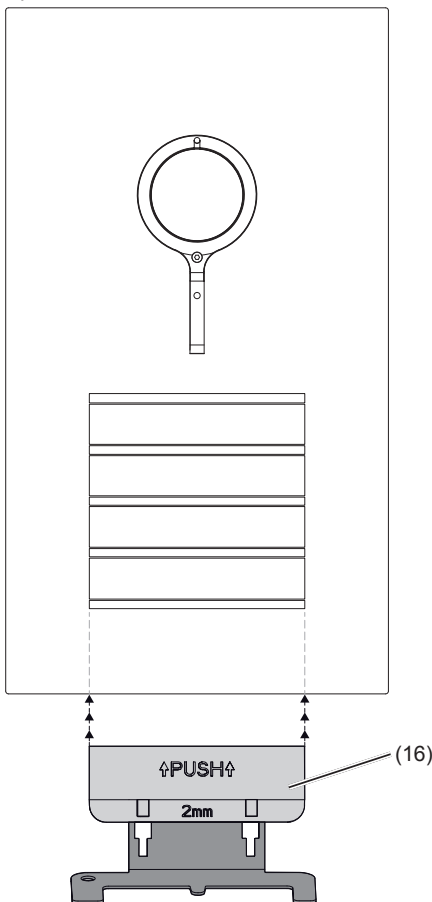

Figure 18: Opening of the door station
- Position the opening tool (16) at the bottom in the middle and press up (Figure 18).